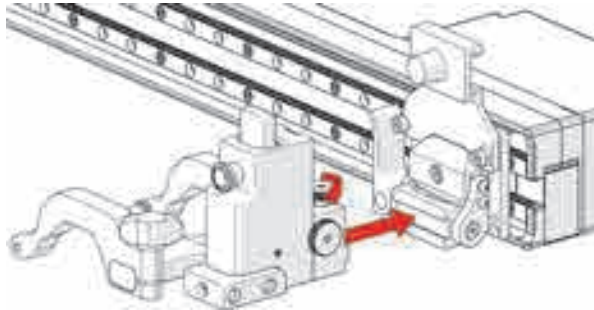

Figure 4-78 Mount probe holder to carrier
1. Loosen the probe holder adjustment knob, and mount the heavy duty vertical probe holder's dovetail jaw to the carrier (see Figure 4-78 on page 152).